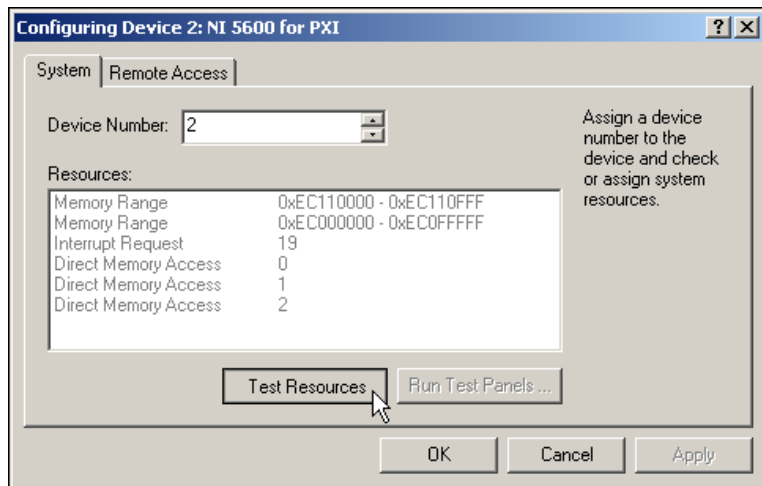

Figure 1-10. Select Test Resources in the NI 5600 Configuring Device Window
- The Configuring Device dialog appears as shown in Figure 1-10. Click **Test Resources** to self-test the NI 5600 RF downconverter hardware module.